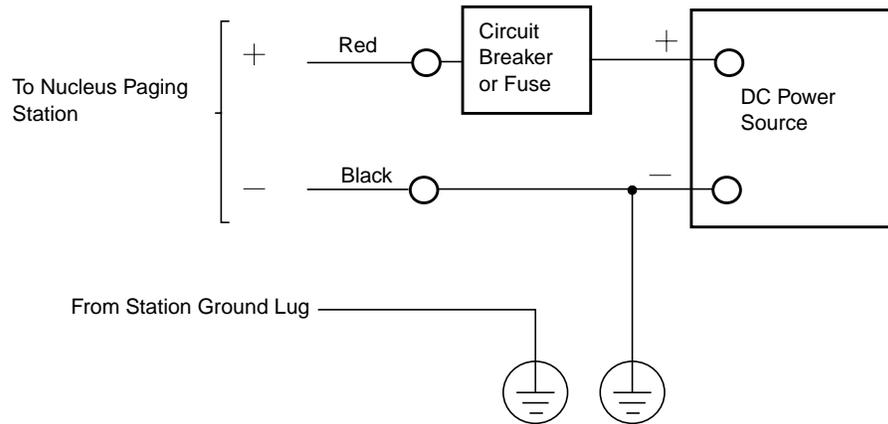

Figure 5-10: Positive Voltage DC Power Supply
1. Connect the black-coated wire to earth ground (see Figure 5-10).